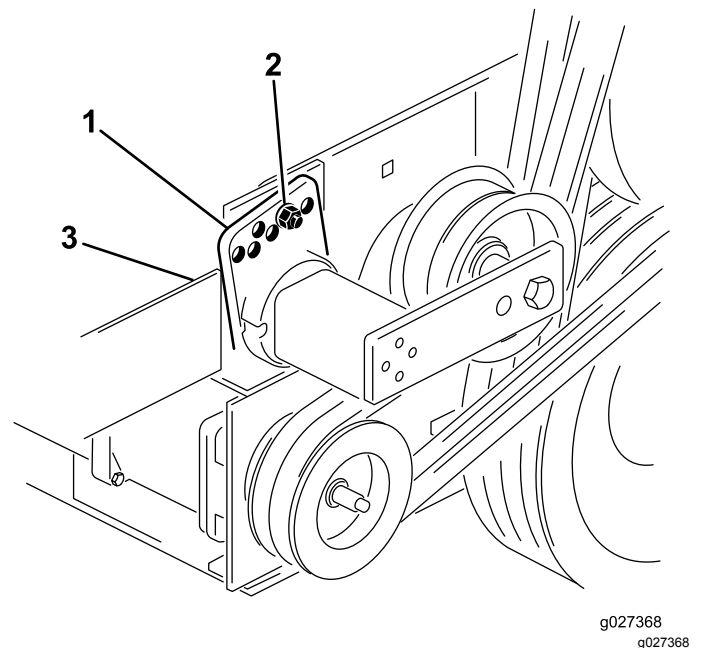

Figure 13
2. On back side of the frame, loosen the bolt securing the belt tensioner to the frame (Figure 13).
3. Remove the bolt and nut securing the tensioner guide to the drive mount to release the belt tension (Figure 13).